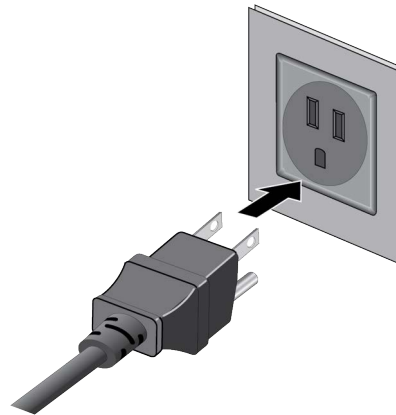

Figure 30. Connecting the Power Cord to an AC Power Source
2. Connect the power cord to an appropriate AC power source. Refer to Figure 30.